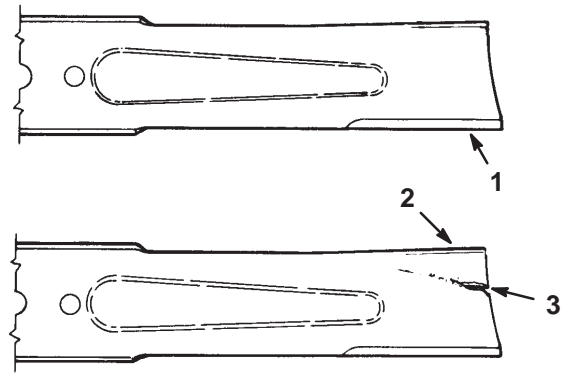

Figure 42
- Inspect the cutting edges (Fig 42). If the edges are not sharp or have nicks, remove and sharpen the blades. Refer to Sharpening the Blades on page 32.
- Inspect the blades, especially the curved area (Fig. 42). If you notice any damage, wear, or a slot forming in this area (item 3 in Fig. 42), immediately install a new blade.